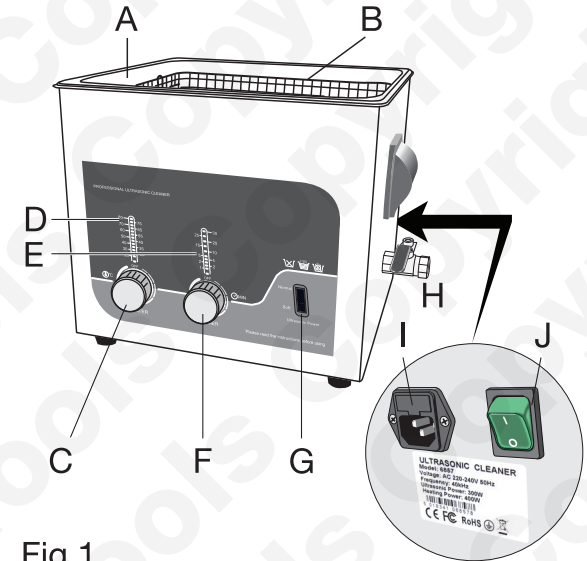

Fig 1
3. Refer to Fig 1: Ensure the power lead is plugged securely into the socket at the rear of the cleaner (**I**).